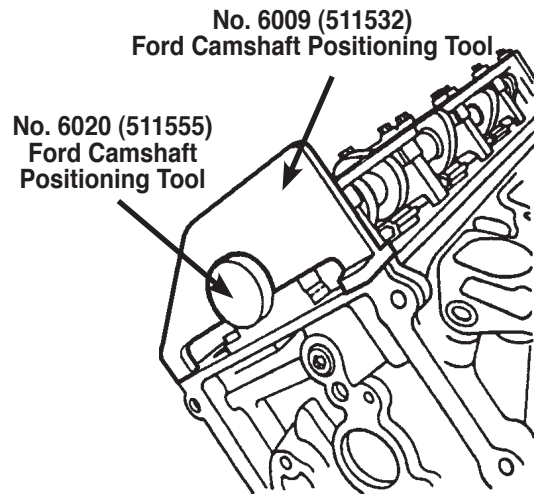

Figure 2
- **All other applications** : Refer to Figure 2. Install No. 6009 (511532) and Cam Positioning Tool No. 6020 (511555) into each camshaft end before removing (or installing) timing chain tensioners and chains—this prevents valve train damage.